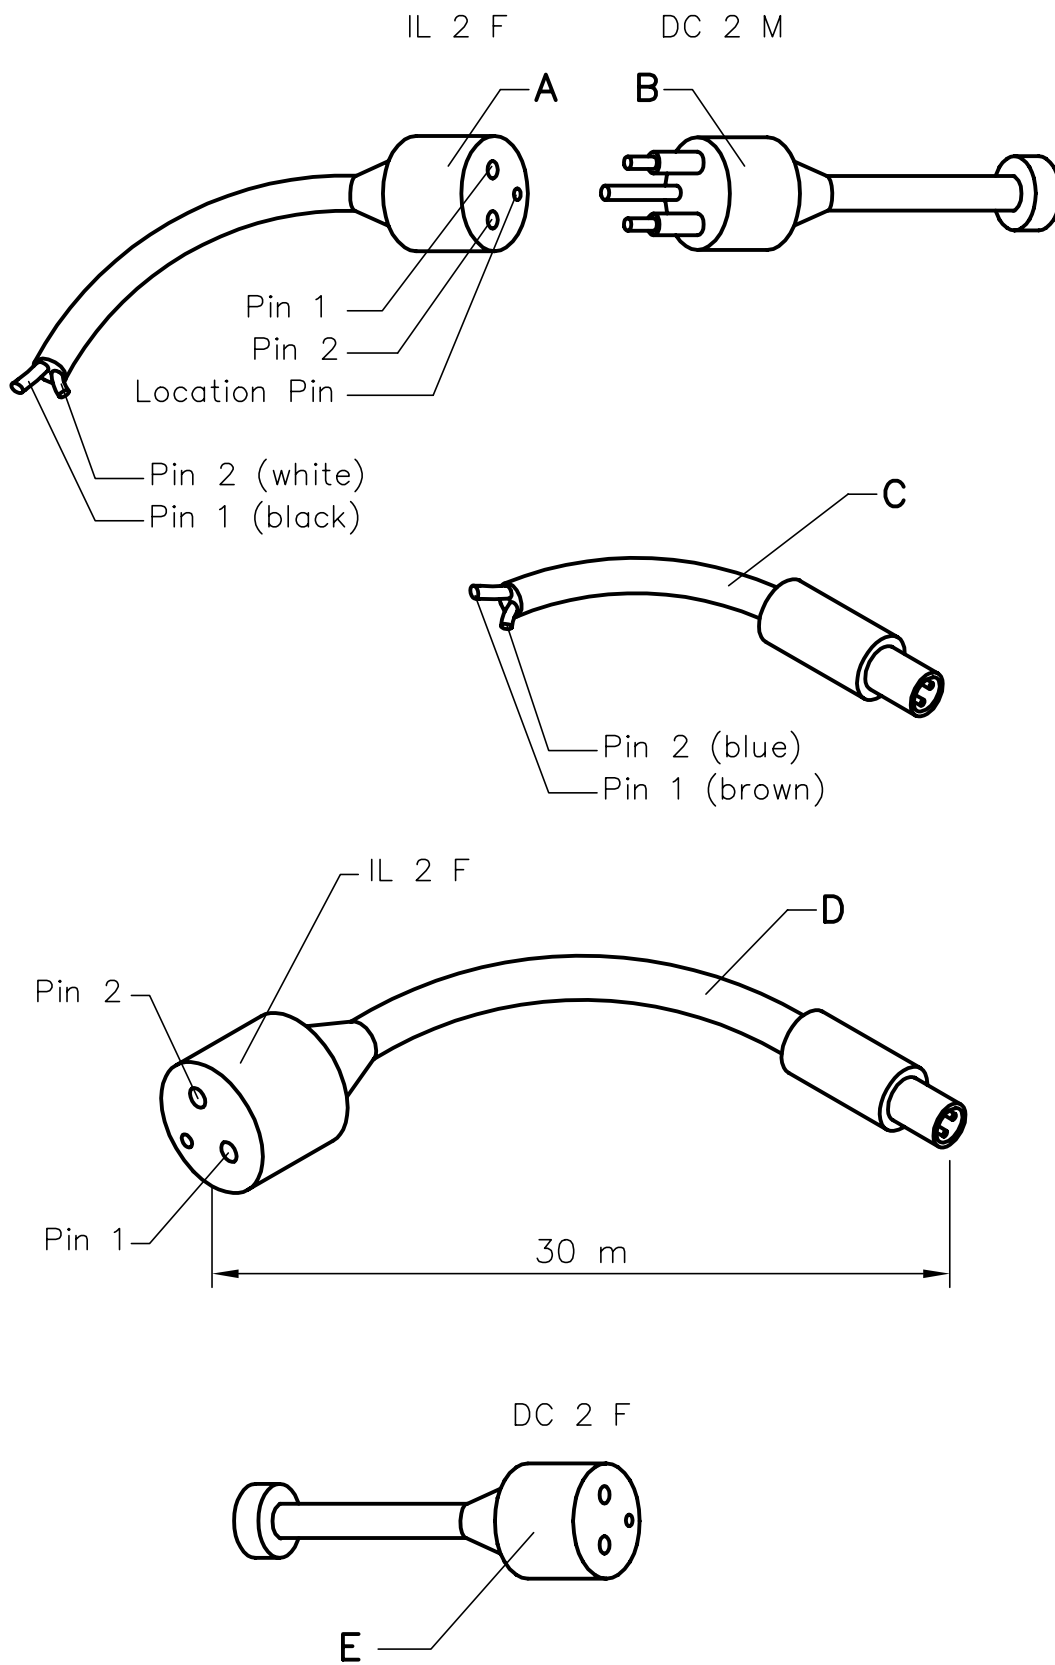
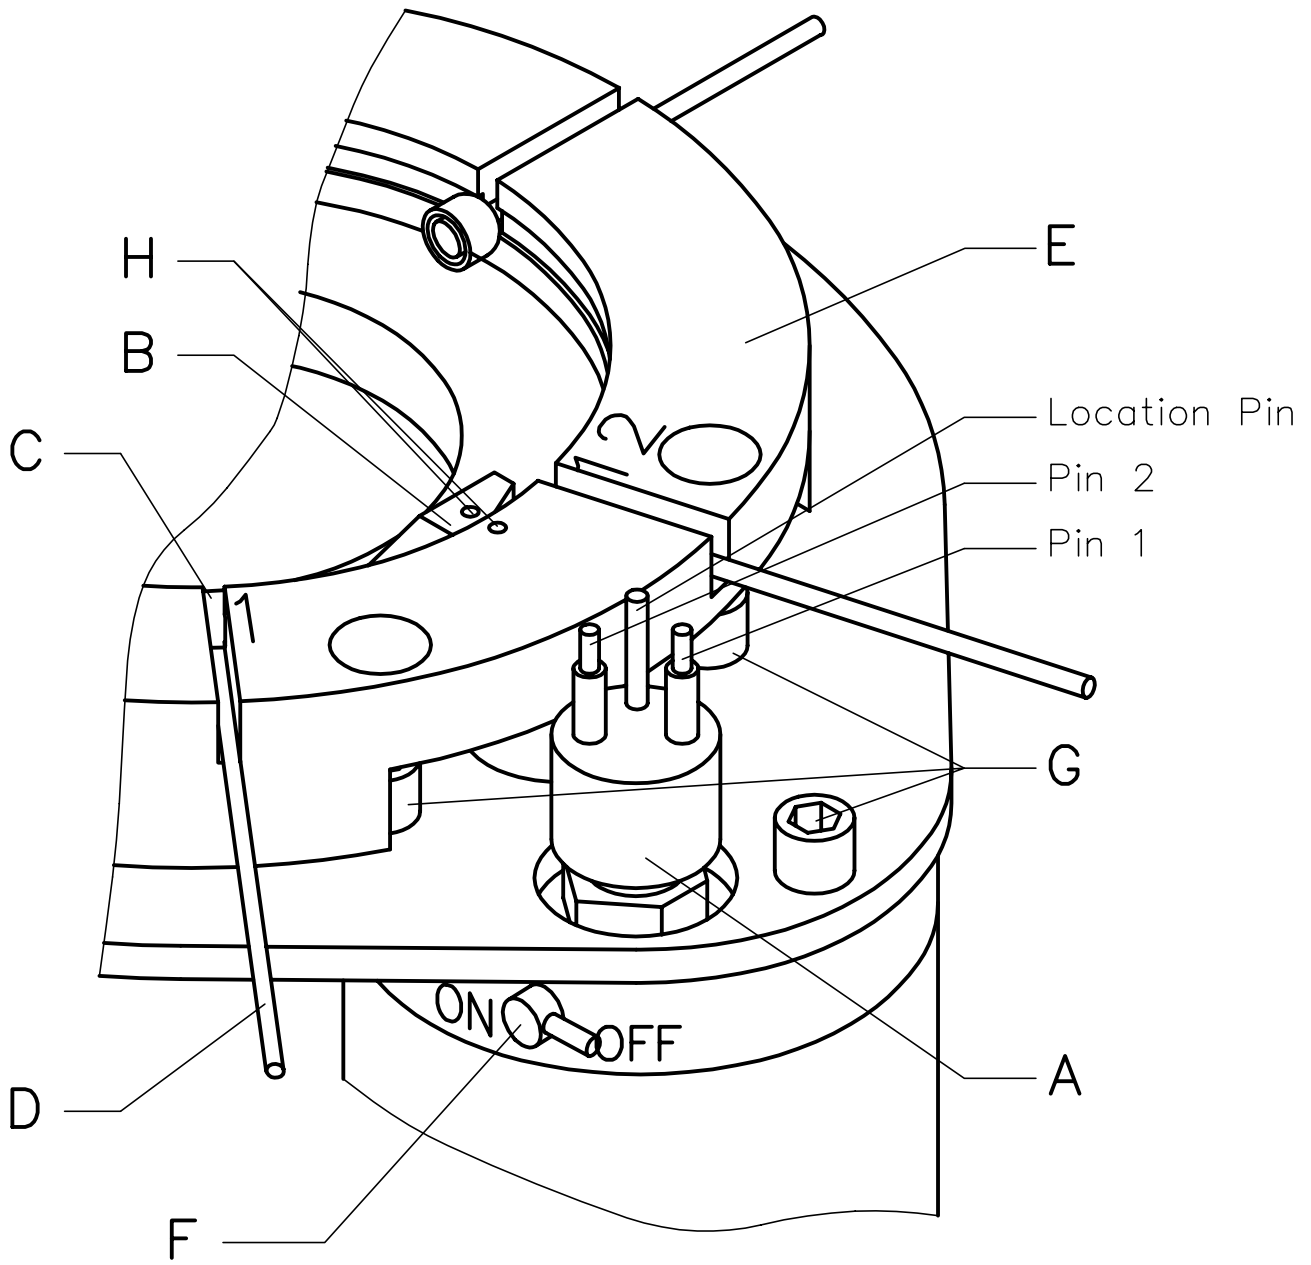
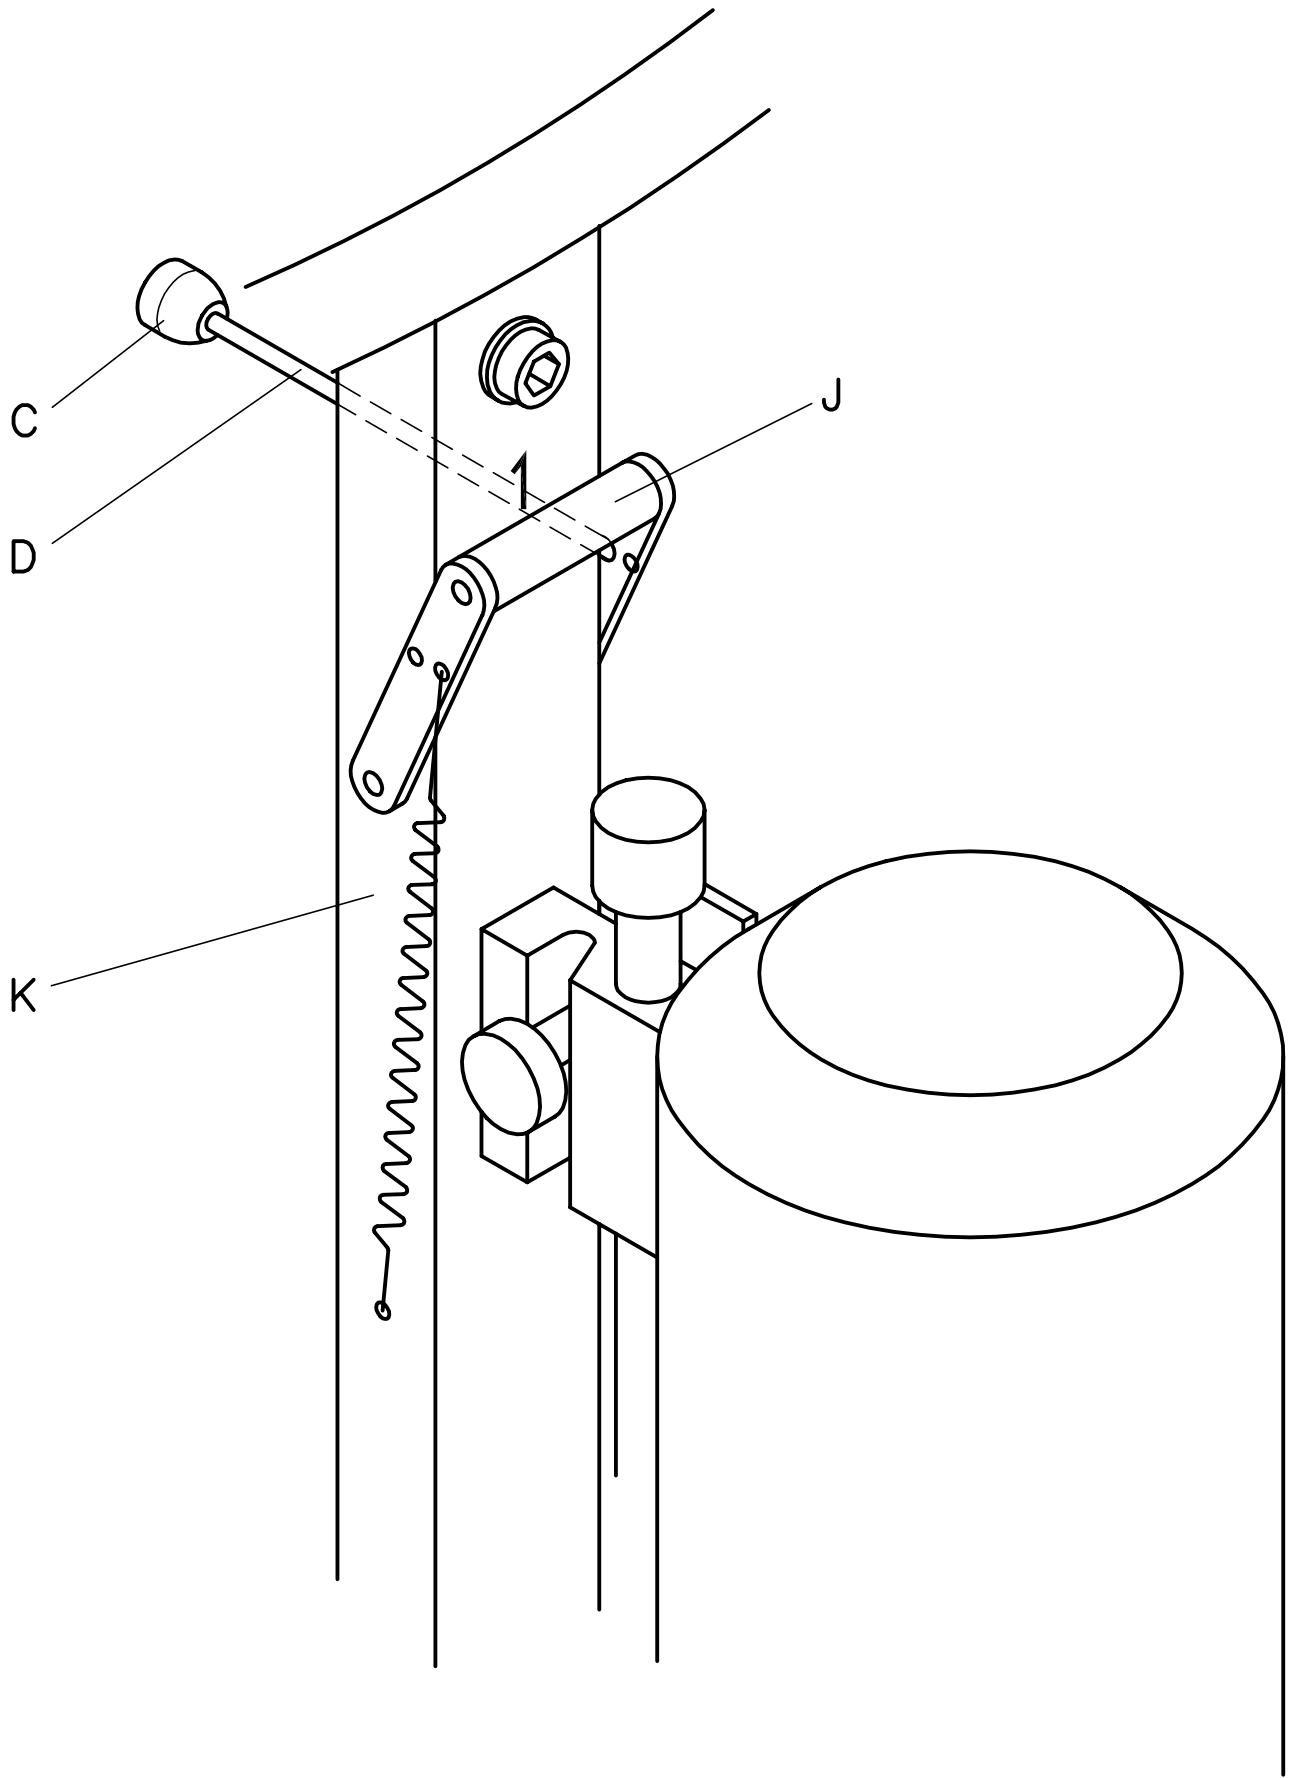

Fig. 1
Fig. 2
Fig. 3
12. The procedure (as described in point 11.) has to be repeated another 23 times. Finally the second line of the display indicates with **UNDERWATER UNIT: END OF OPERATION** that a complete operation has been simulated. The release block (Fig. 2 B) is now again between slit no. **1** and no. **24** (Fig. 2).
13. Switch off Underwater Unit (Fig. 2 F) and Deck Command Unit (Fig. 4 B).
14. Remove the Test Run Cable (Fig. 1 D).
When a **SECOND TEST RUN** of the **MULTI WATER SAMPLER MWS 24** is not intended, plug the dummy DC 2 F (Fig. 1 E) onto the connector BH 2 M (Fig. 2 A) and plug the dummy DC 2 M (Fig. 1 B) into the connector IL 2 F (Fig. 1 A) of the single or multi conductor cable. Beforehand the contacts should be slightly greased with the special Pin-lubricant.
2. The lever key of the Underwater Unit has to be switched to position **O** (Fig. 2 F).
3. Connect the connection cable from the slip ring box of the winch (Fig. 1 C) to the Deck Command Unit (Fig. 4 C).
4. Slightly grease the pins of the connector BH 2 M (Fig. 2 A) of the Underwater Unit with the PIN-lubricant.
5. Connect the single or multi conductor cable (Fig. 1 A) to the Underwater Unit (Fig. 2 A).
6. Lift the striking bar **J** of the rack no. **1** and put rope **D** with the plastic ball **C** into the corresponding slit no. **1** (Fig. 2, Fig. 3).
9. The lever key of the Underwater Unit has to be switched to position **I** (Fig. 2 F), the main screen appears at the display of the Deck Command Unit.
11. The procedure (as described in point 10.) has to be repeated another 23 times. Finally the second line of the display indicates with **UNDERWATER UNIT: END OF OPERATION** that a complete operation has been simulated. The release block (Fig. 2 B) is now again between slit no. **1** and no. **24** (Fig. 2).
12. Switch off Underwater Unit (Fig. 2 F) and Deck Command Unit (Fig. 4 B).
When an operation of the **MULTI WATER SAMPLER MWS 24** is not intended, the single or multi conductor cable has to be removed. To avoid corrosion of the contacts, plug the dummy DC 2 F (Fig. 1 E) onto the connector BH 2 M (Fig. 2 A) and plug the dummy DC 2 M (Fig. 1 B) into the connector IL 2 F (Fig. 1 A) of the single or multi conductor cable. Beforehand the contacts should be slightly greased with the special Pin-lubricant.
3. The lever key of the Underwater Unit has to be switched to position **O** (Fig. 2 F).
4. Lift the striking bar **J** of the rack no. **1** and put rope **D** with the plastic ball **C** into the corresponding slit no. **1** (Fig. 2, Fig. 3).
8. The lever key of the Underwater Unit has to be switched to position **I** (Fig. 2 F), the main screen appears at the display of the Deck Command Unit.
14. Switch off Underwater Unit (Fig. 2 F) and Deck Command Unit (Fig. 4 B) when the Underwater Unit is back on board.
When a further operation of the **MULTI WATER SAMPLER MWS 24** is not intended, the single or multi conductor cable has to be removed. To avoid corrosion of the contacts, plug the dummy DC 2 F (Fig. 1 E) onto the connector BH 2 M (Fig. 2 A) and plug the dummy DC 2 M (Fig. 1 B) into the connector IL 2 F (Fig. 1 A) of the single or multi conductor cable. Beforehand the contacts should be slightly greased with the special Pin-lubricant.
2. Unscrew 3 hexagon socket screws M 6 (Fig. 2 G). and remove the motor housing.
- b) the the red releaser is not positioned between slit no. **1** and no. **24** of the basic ring (Fig. 2 B)
1. Connect the Test Run Cable (Fig. 1 D) to the Deck Command Unit (Fig. 4 C).
2. Connect the Test Run Cable (Fig. 1 D) to the removed motor housing (Fig. 2 A).
4. The lever key of the motor housing has to be switched to **I** (Fig. 2 F), the main screen appears at the display of the Deck Command Unit (see DECK COMMAND UNIT, page 8).
11. The red releaser block is to be turned by hand until it is positioned between slit no. **1** and no. **24** of the basic ring (Fig. 2 B).
1. Check the connection between the plug SUBCONN IL 2 F (Fig. 1 A) and the single or multi conductor cable (and check the cable adapter if used).